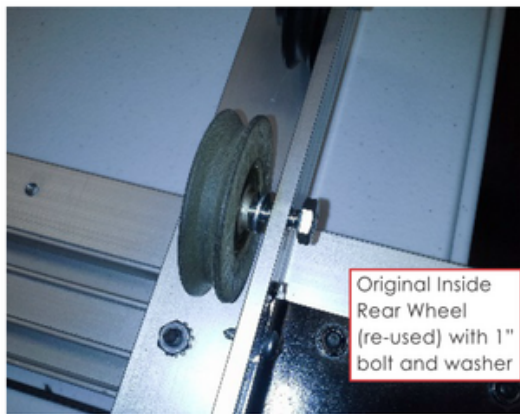

Fig. 7
- **Inside Rear Wheels** (if equipped) - Remove bolt and ensure it's a 1" bolt with 1 spacer washer under it (fig 7).